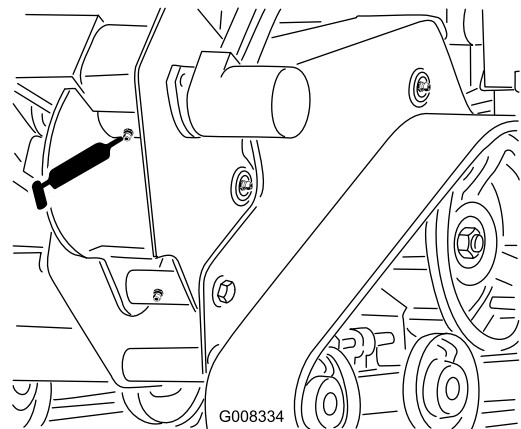

Figure 26
3. Clean the trencher housing grease fitting with a rag and connect a grease gun to it (Figure 26).